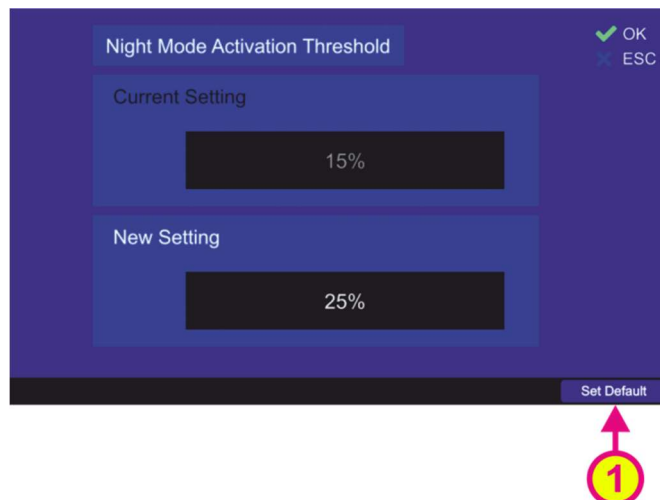

Figure 110. Changing the value for the night mode activation threshold
Following dialog appears (s. Figure 110).
- Use the “Set Default” hotkey (s. Figure 110, position 2) to reset the value to the default value (15%).